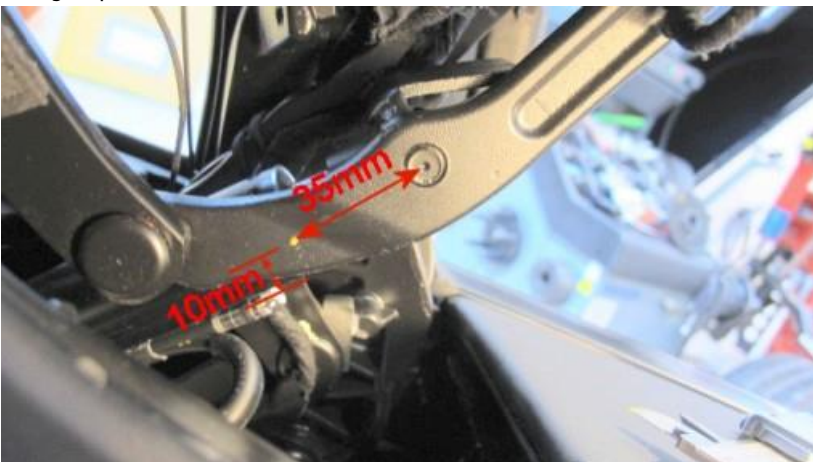

Figure 7
6. Mark the required hole position on the dead centre linkage, yellow dot. The hole should be located 35mm from the centre of ball joint stud and 10mm up from the outer edge of the dead centre linkage (see Figure 7)